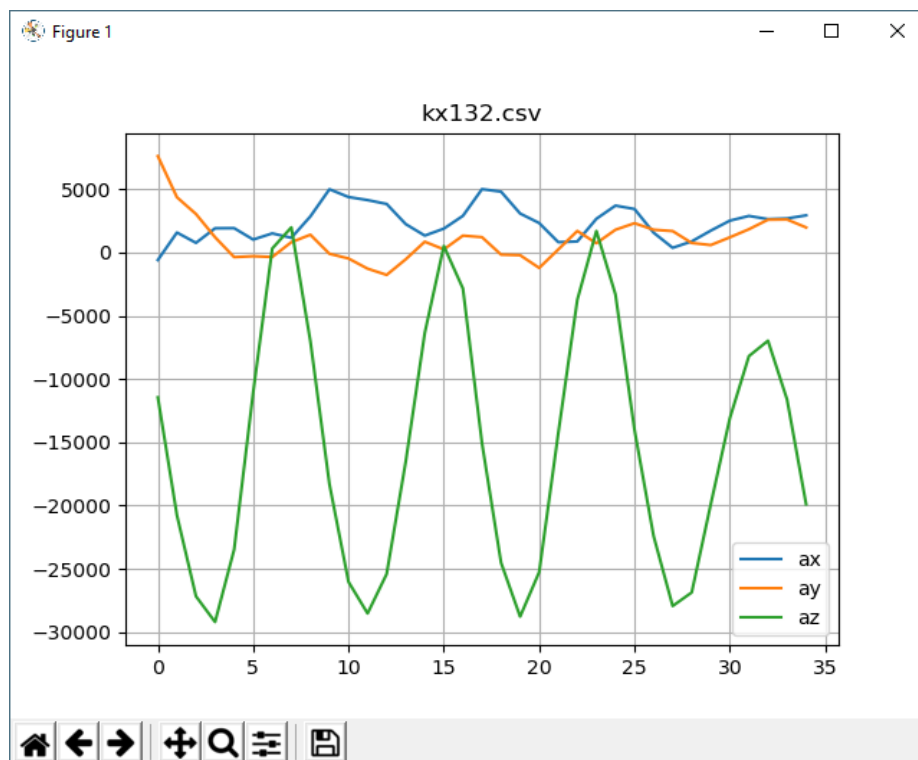

Figure 71. Recorded signals shown by the `plot.py` application
- It is possible to view the data logged with Data Logger (5.7.1) using the `plot.py` application (Figure 71). Since the `kx132.csv` output file is located in \Documents\RoKiX\RoKiX-Python-CLI\kx132, it can be plotted using the following command when executed from the same folder: